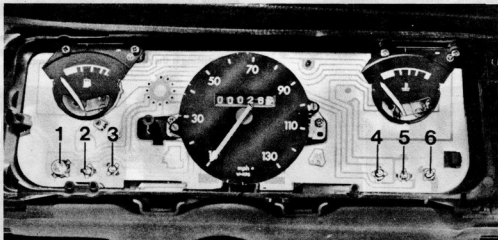

Fig. 10.33. Instruments and warning lights exposed after removal of facia panel (Sec. 34)
- 11 The fuel and water temperature gauges, speedometer and warning lamp bulbs are now accessible (Fig. 10.33).